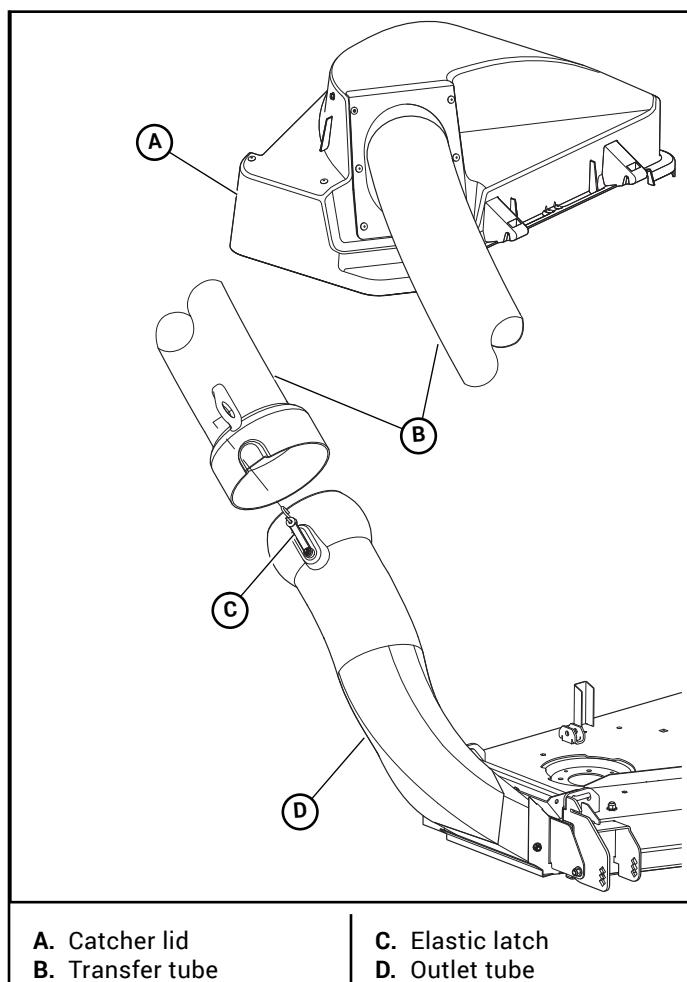

Figure 3-29
35. Slide the end of the transfer tube into the opening in the catcher lid. Figure 3-29
38. Attach the transfer tube to the outlet tube by aligning the slot on the transfer tube with the knob on the outlet tube and hooking the elastic latch through the loop of the transfer tube. Figure 3-29 & Figure 3-30